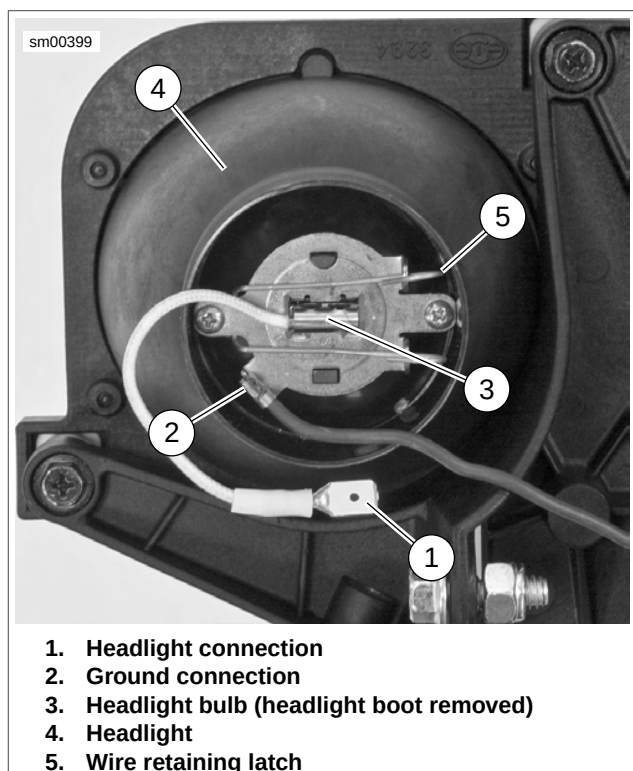

Figure 7-60. Headlight Bulb: Firebolt
2. See Figure 7-60. Disconnect headlight connection (1).
4. Release wire retaining latch (5) from headlight housing clips.
1. See Figure 7-60. Align tabs on bulb (3) with tabs on headlight (4). Insert bulb.
2. Close the wire retaining latch (5).